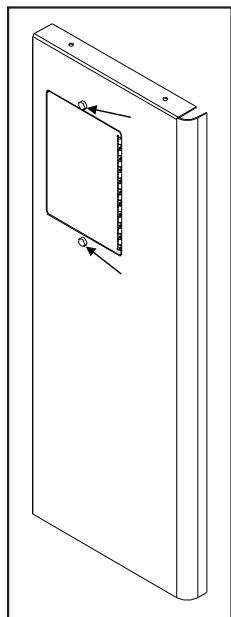

Figure 31: Right Panel - Front.
Place the circuit board control panel on the backside of the right surround panel so the hinge is on the outside and the top and bottom holes on the control panel line up with those on the surround. Attach using two (2) T-20 screws through the front of the surround into the circuit board control panel (see Figure 31).